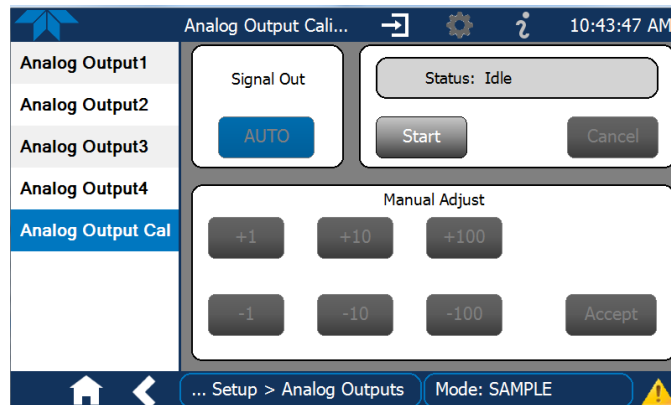

Figure 2-49. Analog Outputs Group Calibration Screen
- AUTO for group calibration (Figure 2-49) of the analog outputs (cannot be selected when Current is selected for the Range)